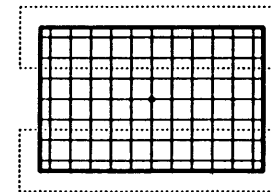

FIG. 19
31. RJ87 (LIN) controls the blue line at the top and bottom. Adjust RJ87 so that the blue line is on the opposite side and at the same distance away from the green. (So the blue line can be either on the inside or outside of the green line but the distance must be the same at both sides.) See Fig. 19.